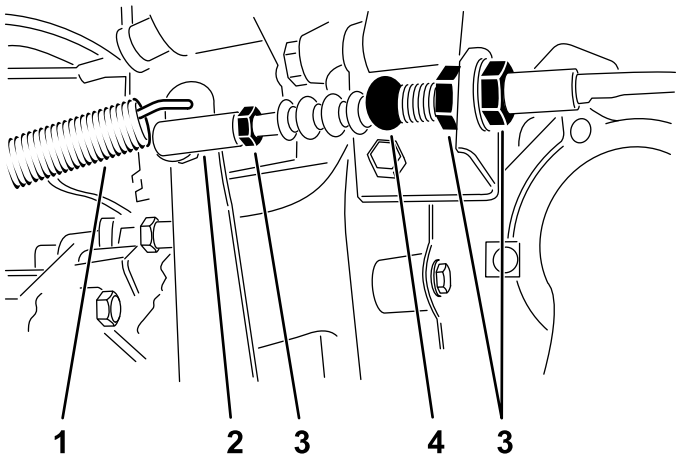

Figure 61
1. Loosen the jam nuts securing the clutch cable to the bracket on the bell housing (Figure 61).